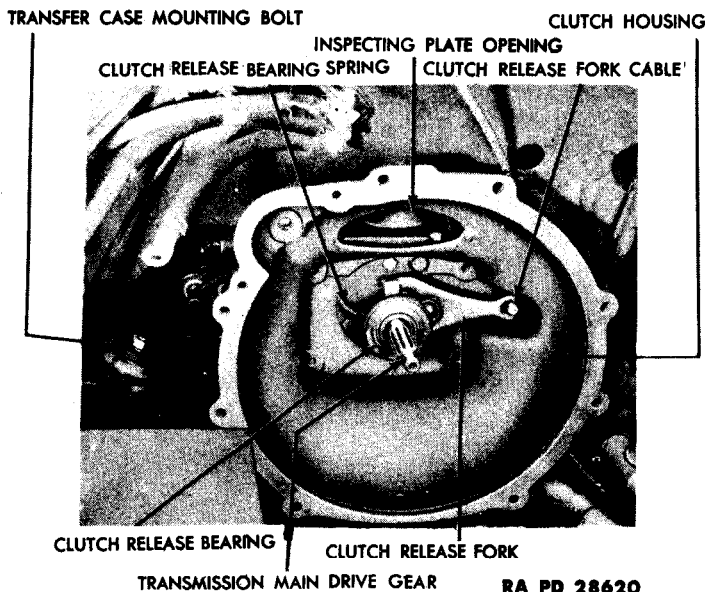

Figure 7 — Clutch Release Fork
g. **Remove Clutch Release Fork (fig. 7).** Working through the inspection plate opening on the clutch housing, remove the clutch cable from the clutch release fork, and remove the clutch release fork from the clutch housing.
f. **Install Clutch Release Fork (fig. 7).** Working through the inspection plate opening on the clutch housing, insert the clutch release fork in the clutch housing. Place the release fork behind the clutch release bearing. Slide the clutch release fork cable in the slot on the opposite end of the clutch release fork. Install the clutch release fork cable to the clutch shaft at the transfer case.